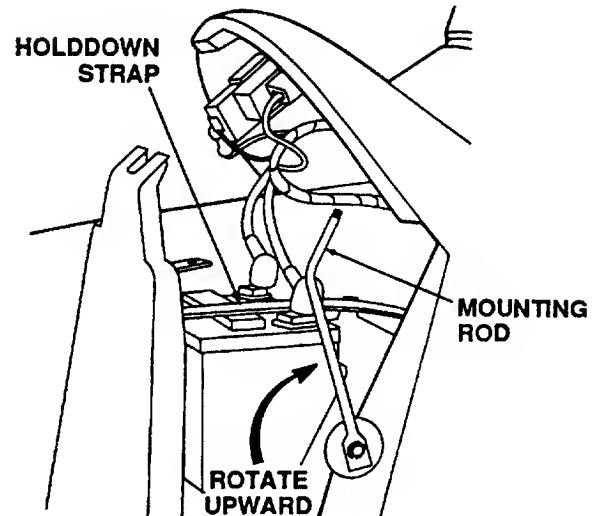

Figure 32
3. Rotate the mounting rod fully upward toward the dash panel to provide clearance for battery removal (See Figure 32).